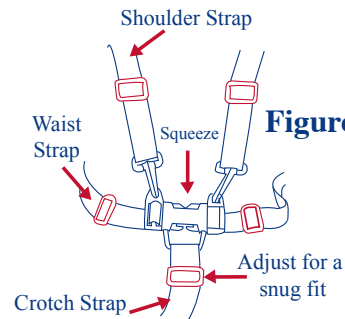

Figure 12a.
- Carefully place the child in the stroller seat and bring the safety harness around the child's waist and over the shoulders. Place the crotch strap between the child's legs. Insert the male end of each shoulder/waist belt into the buckle on the crotch strap. Tighten the harness to be snug around the child's waist and over the child's shoulders. Please see figure 12a.